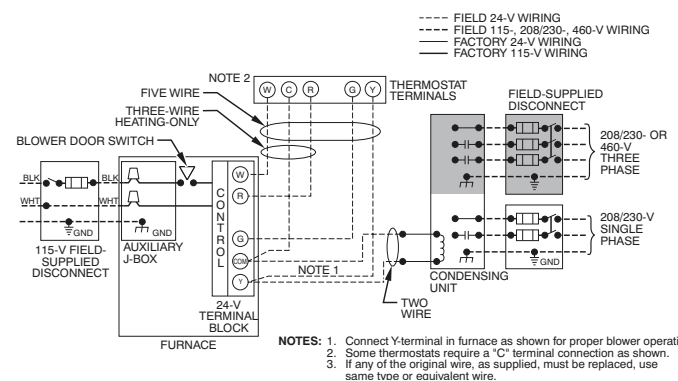

Fig. 32 – Typical Single-Stage Wiring Diagram
See Fig. 32 for field wiring diagram showing typical field 115-V wiring. Check all factory and field electrical connections for tightness.
- Connect power cord power and neutral leads to furnace power leads as shown in Fig. 32.
- Connect field power and neutral leads to furnace power leads. as shown in Fig. 32.
Make field 24-v connections at the 24-v terminal strip. See Fig. 37. Connect terminal Y as shown in Fig. 32 for proper cooling operation. Use only AWG No. 18, color-coded, copper thermostat wire.